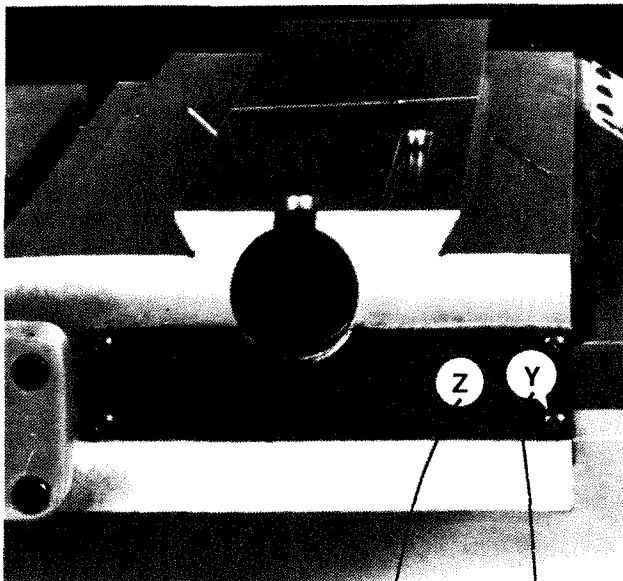

Figure 1.28 - Carriage Lubricator Junction Block Cover
9. Remove four screws "Y" and cover "Z", Figure 1.28.
13. Install cover "Z" and four screws "Y", Figure 1.28 .